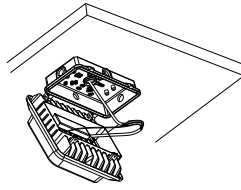

Figure 2-6
6. Connect the input line and ground; If the fixture is equipped with sensor, adjust the sensor settings; Take relevant waterproof measures after the wires are connected; Figure 2-6